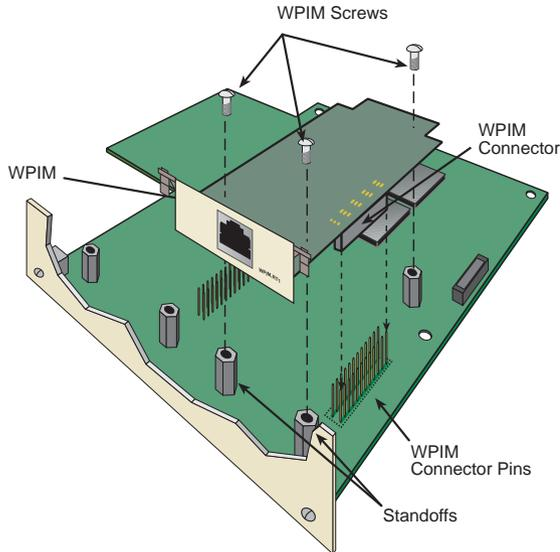

Figure 2-2 Installing the WPIM-RT1
To install the WPIM-RT1 into the device, refer to Figure 2-2 and complete the following steps:
2. Orient the WPIM-RT1 as shown in Figure 2-2.